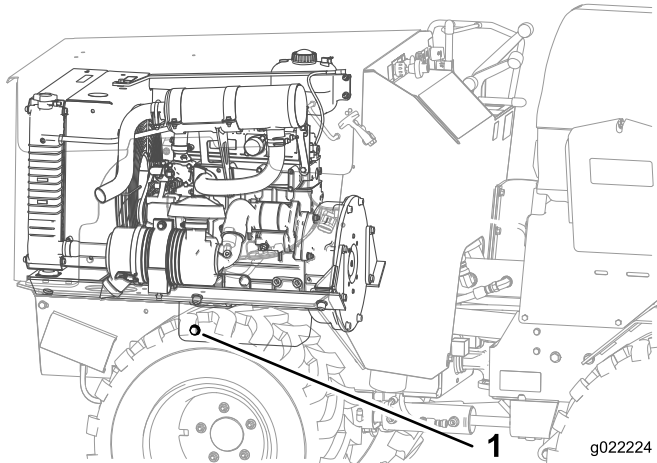

Figure 24
4. Remove the filler cap and the drain bolt (Figure 24).